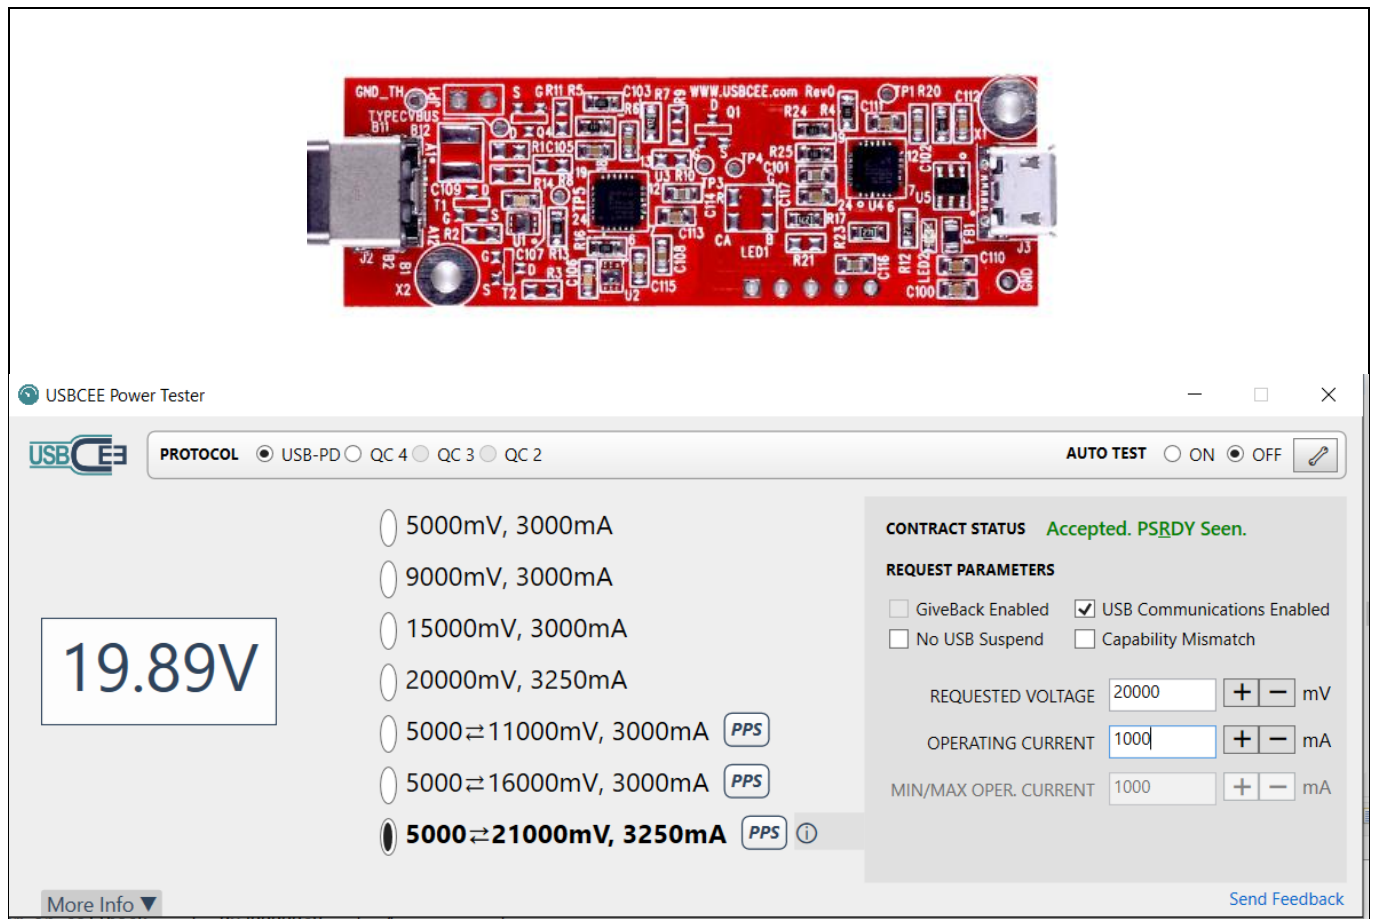

Figure 7 PAT tester and user interface
2. Connect a USB PD tester or a power adapter tester (PAT) to the port and ensure that the USB PD tester gets a successful Power Delivery contract as shown in Figure 7.